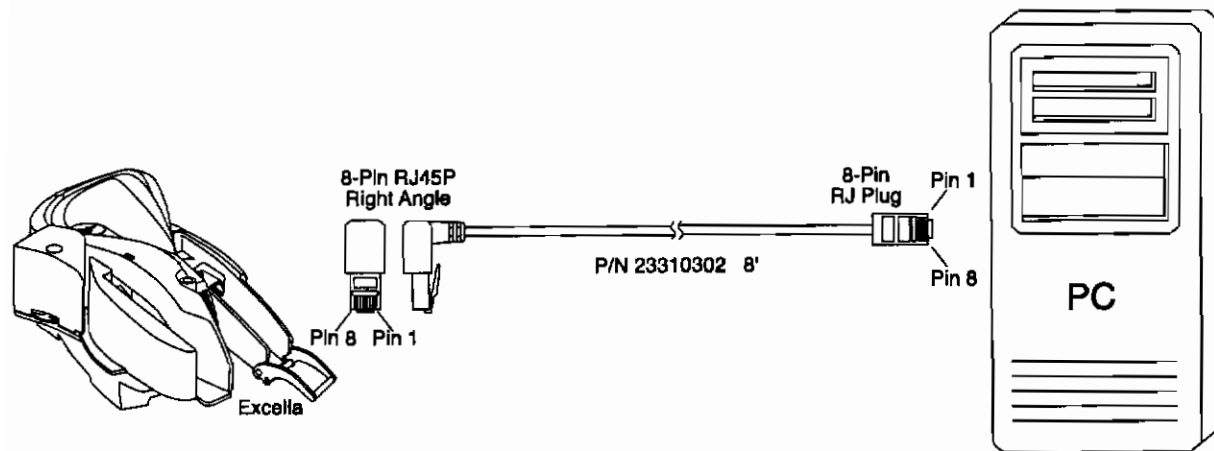

Figure 2-7. Cabling, Ethernet, 8-pin RJ45P, Right Angle, P/N 22310302 or 22310304
- Ethernet – RJ 45P, 8-pin, right angle, P/N 22310302 shown in Figure 2-7 with pin list in Table 2-2
- Ethernet Cross-Over – RJ 45P, 8-pin, right angle, P/N 22310304 shown in Figure 2-7 with pin list in Table 2-3